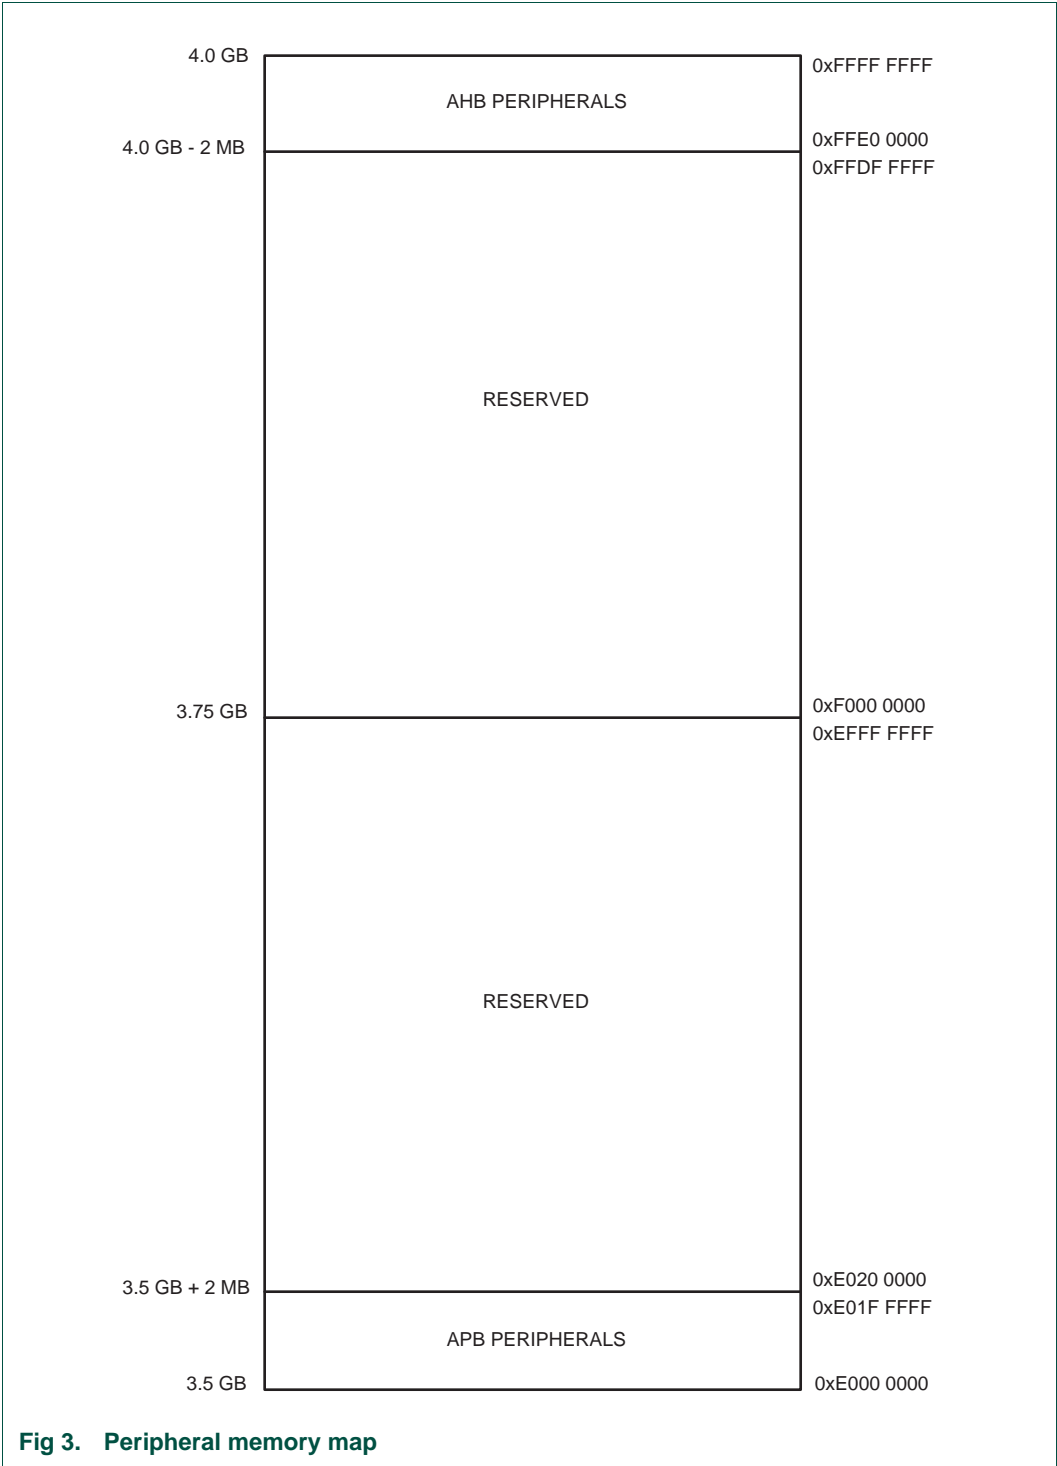

Fig 3. Peripheral memory map
Figures 3 through 4 and Table 2 show different views of the peripheral address space. Both the AHB and APB peripheral areas are 2 megabyte spaces which are divided up into 128 peripherals. Each peripheral space is 16 kilobytes in size. This allows simplifying the address decoding for each peripheral. All peripheral register addresses are word aligned (to 32-bit boundaries) regardless of their size. This eliminates the need for byte lane mapping hardware that would be required to allow byte (8-bit) or half-word (16-bit)
- Reserved regions of the AHB and APB spaces. See Figure 3.